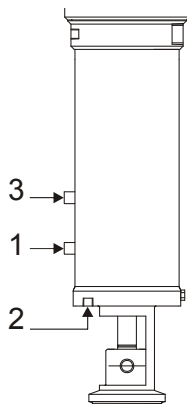

Figure 3 - Solenoid Valve Port Connections
5. Connect the air lines to 1, 2 and 3, as shown in Figure 3, left, and Figure 11 on page 17.